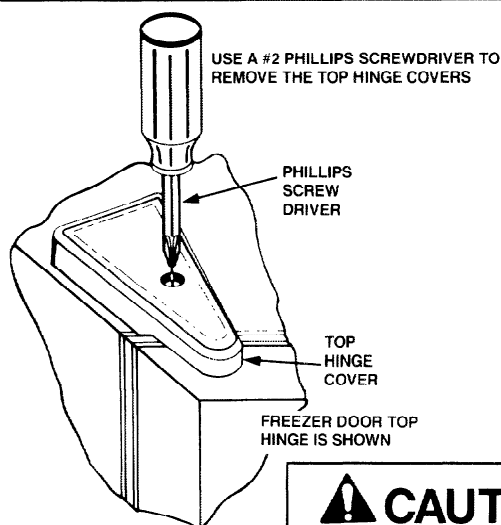

FIGURE 11
2. Remove the top hinge covers. See Figure 11.